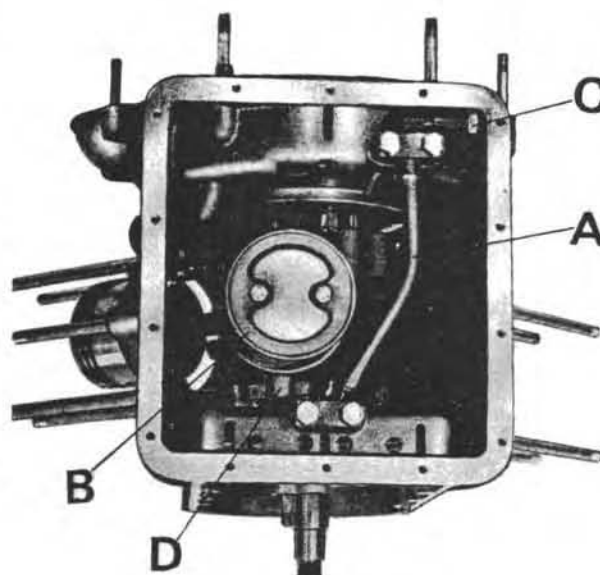

Fig. 15
- complete oil cleaner and gasket (see B on Fig. 15). Cleaner consists of: 2 retaining bolts, bottom plate, wire gauze and cleaner body.
- oil pipe (see A on Fig. 15), after flattening lock plates and unscrewing securing bolts and washers. Remove from pipe the pressure relief valve, consisting of: plunger, spring, bottom plate and plug.